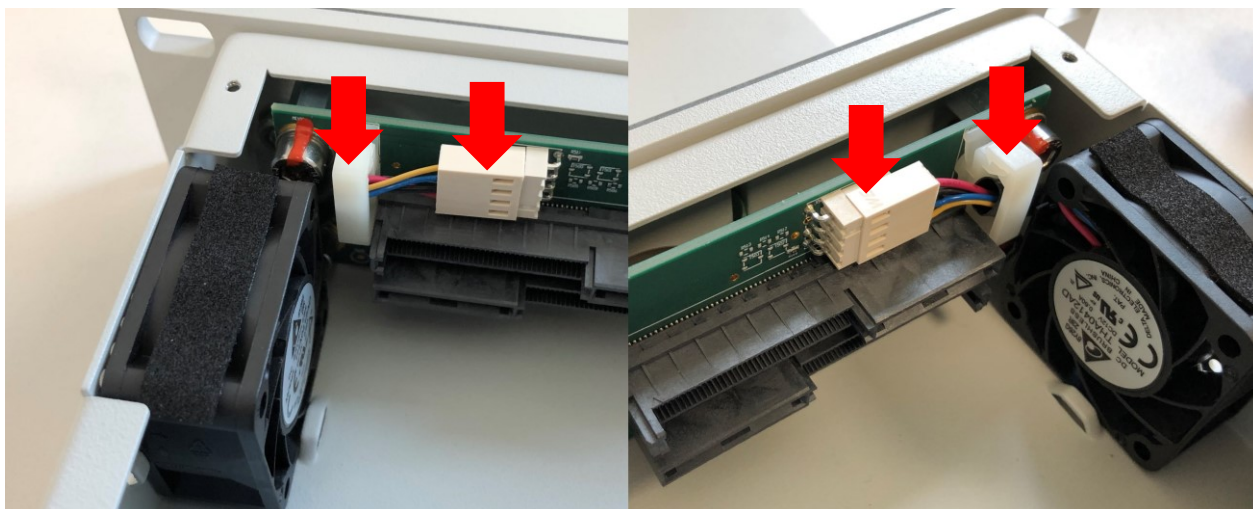

Figure 45
6. Remove the defective fan from the base system. Figure 45 illustrates the positions of the cable guide and the plug of the fan.